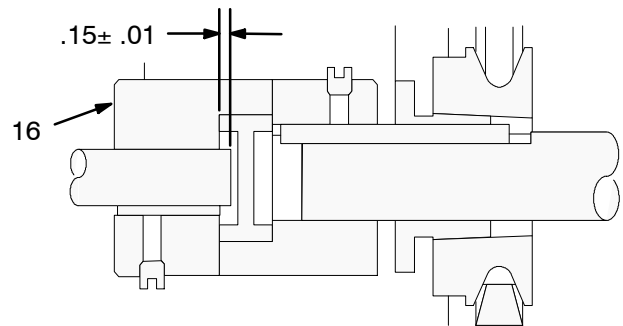

Fig. 17
- Install elbow (105), adapter (106), elbow (140), and insert (141) on hydraulic vane pump (33).
- Install nipple (82), and install reducer (valve manifold) (84) on hydraulic vane pump (33).
- Install hydraulic vane pump (33), reducer (valve manifold) (84), and half of coupler (16). If coupler half has been removed, install coupler half on hydraulic vane pump shaft to dimension in Fig. 17.